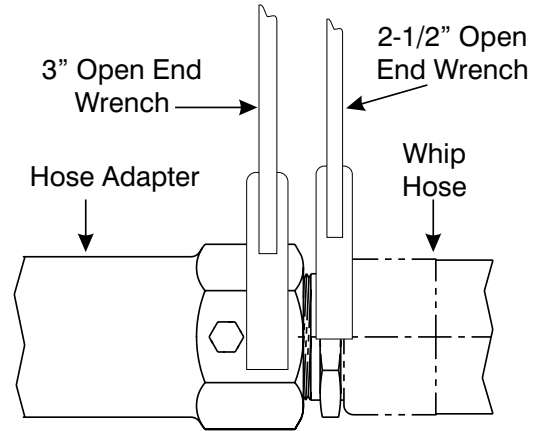

Figure 11-17. Secure Whip Hose onto the Hose Adapter.
6. Tighten the Whip Hose (14) securely into the Hose Adapter (15) as shown in Figure 11-17.
- a. Hold the Hose Adapter (15) across its flats with a 3-inch open end wrench.
- b. Use a 2-1/2-inch open-end to tighten the Whip Hose (14) securely into the Hose Adapter (15).
7. Install a new or used Hose Coupling with Clamp (17) onto the Whip Hose (14) as described in procedure 11.3.2.